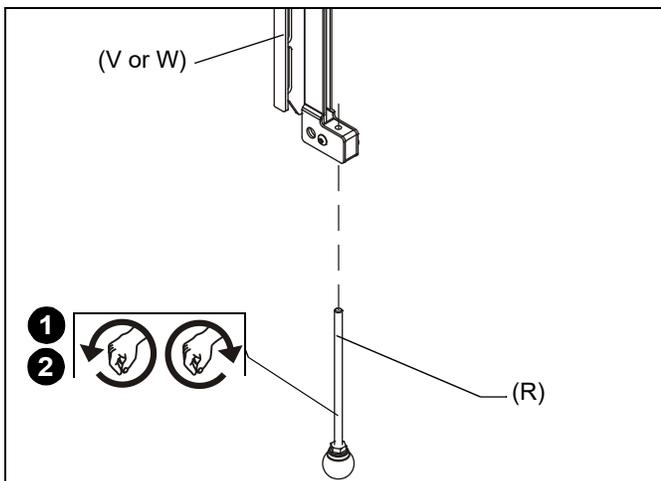

Figure 16
1. If necessary due to height of tall screen, add pull knob (R) to bottom of interface brackets (W and X) to allow easier accessibility for adjustment purposes. (See Figure 16)
2. Adjust length of pull knob so it is not visible below screen. (See Figure 16)